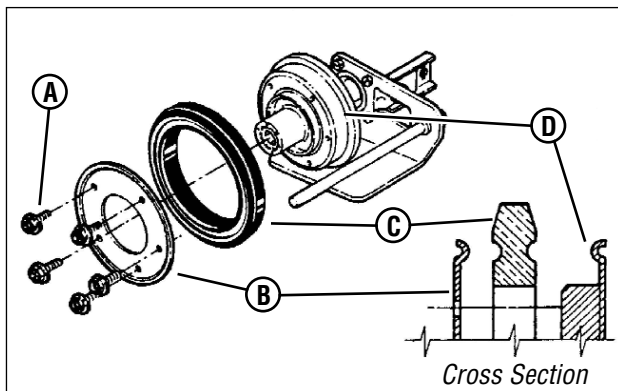

Figure 32: Replacing the driven disc rubber ring
- Remove the five machine screws (A, Figure 32) and plate (B) which secure the rubber ring (C) to the driven disc hub (D).